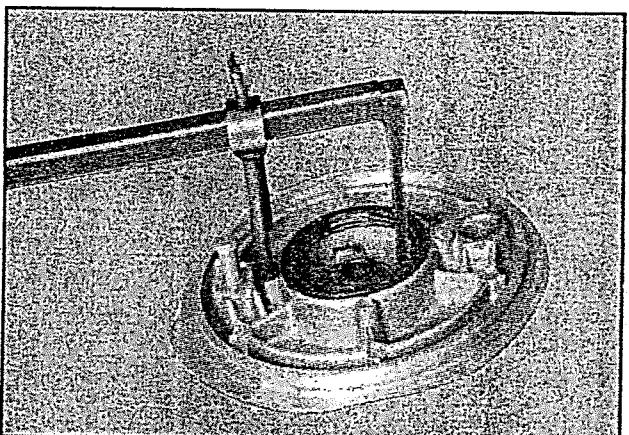

Fig 6.9
- Remove the oil seal by using the special tool (fig 6.9)